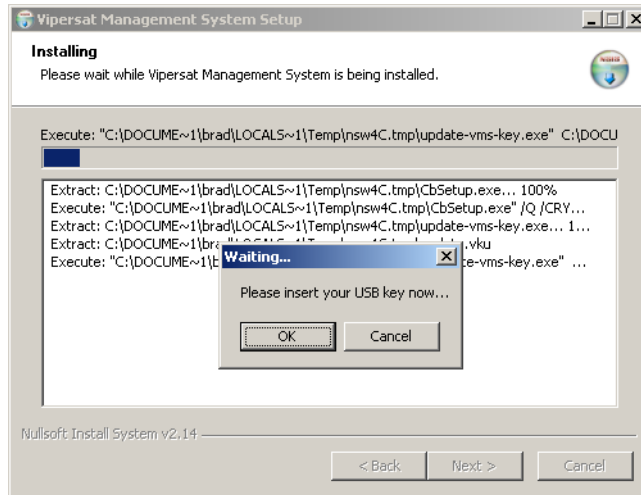

Figure 2-20 Install Cypto-Box Key prompt
16. During installation, the **Waiting** dialog shown in figure 2-20 asking you to insert USB key will pop up and the installation progress bar will stop.
20. Click the **OK** button in the **Waiting** dialog shown in figure 2-20 to complete the installation and updating of the Crypto-Box Key.